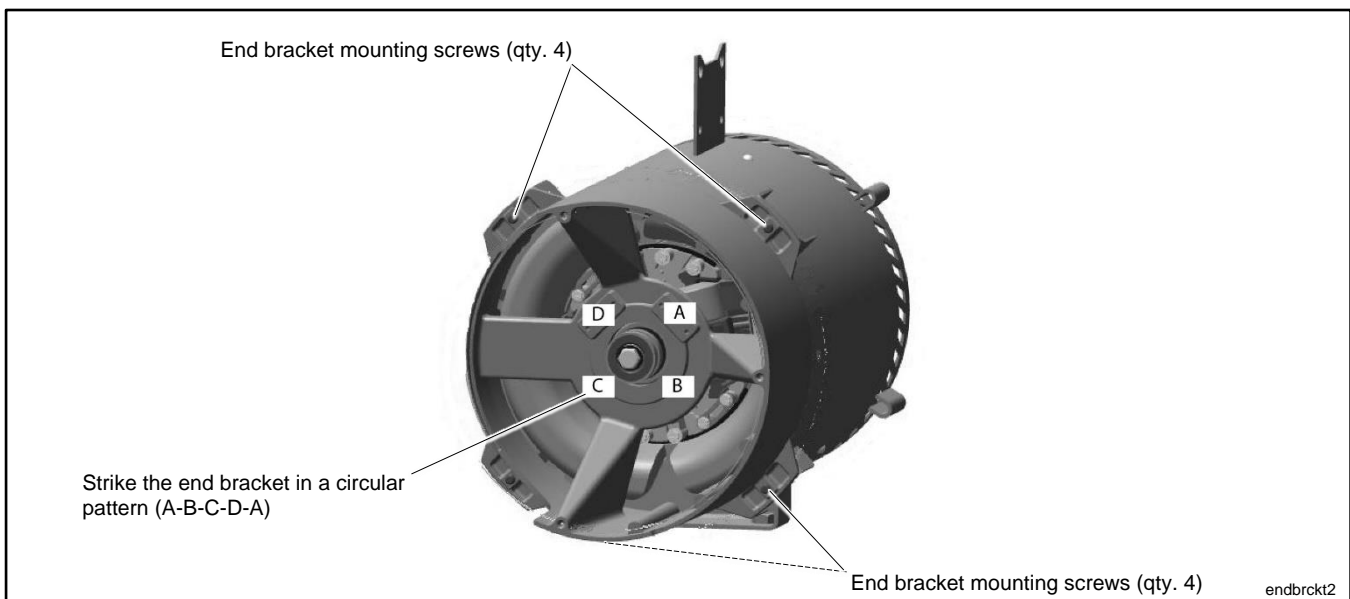

Figure 137 End Bracket Installation
- c. Use a hard rubber or dead-blow hammer to strike the end bracket in a circular pattern to ease the end bracket over the bearing until the end bracket pilot seat is against the stator pilot seat. See Figure 137.
- f. After the bolts are tightened, strike the bracket at locations A through D to relieve any residual stress. See Figure 137.